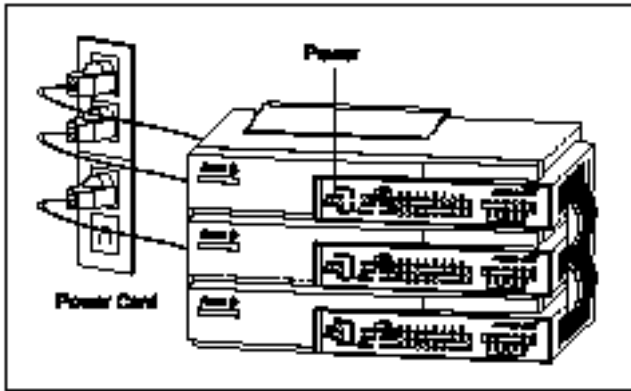

Figure 2-9 Stack multiple hubs together
2.2.5 Plug the power cord into the outlet on wall and check if the power LED lights up. The hub is ready for network connection if the power LED lights up, as shown in *Figure 2-9*.